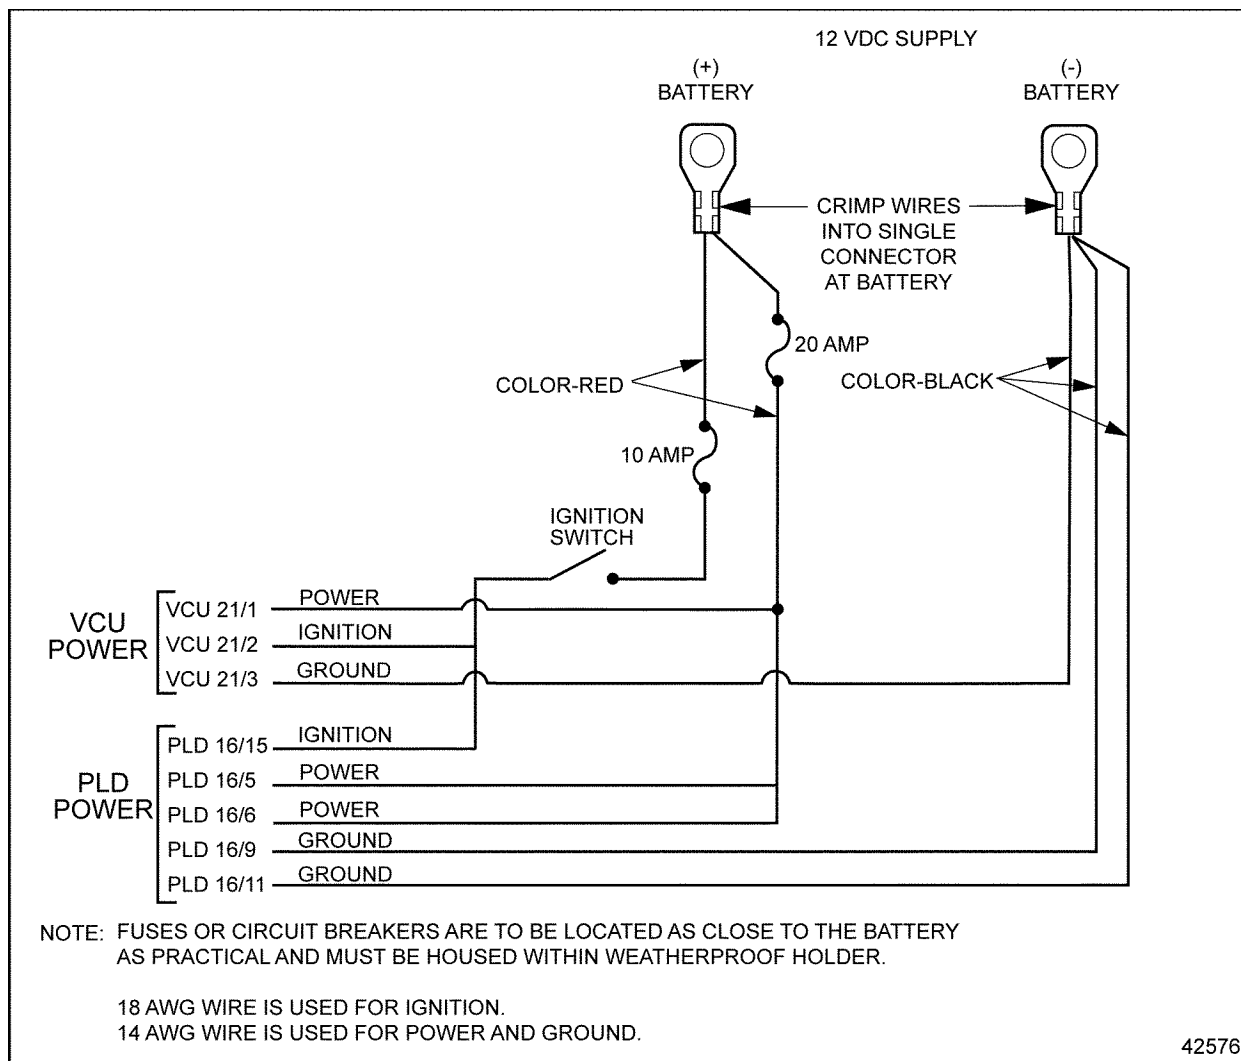

Figure 13-1 Power Wiring
2. Measure the voltage across the battery terminals. See Figure 13-1.